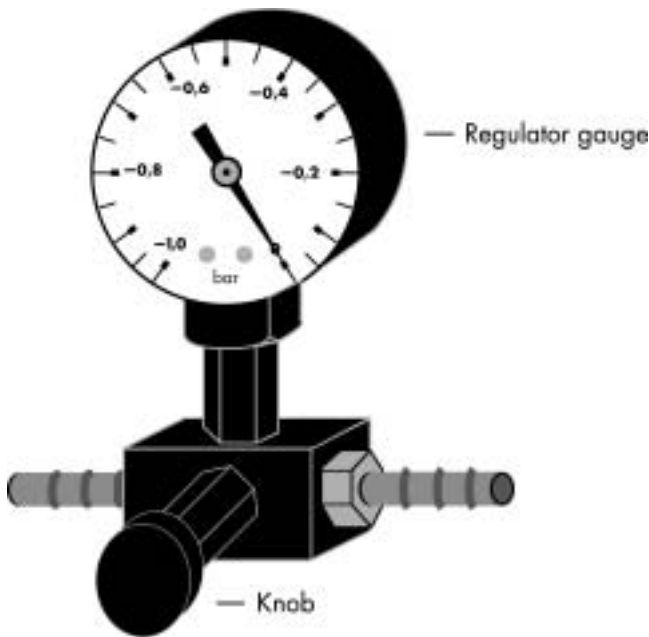

Figure 1. Schematic diagram of the Vacuum Regulator.
- The vacuum pressure is the pressure differential between the inside of the vacuum manifold and the atmosphere (standard atmospheric pressure 1013 millibar or 760 mm Hg) and can be measured using the QIAvac Connecting System or a vacuum regulator (see Figure 1). The vacuum protocol requires a vacuum pump capable of producing a vacuum of –800 to –900 mbar (e.g., QIAGEN, Vacuum Pump). Higher vacuum pressures must be avoided. Use of vacuum pressures lower than recommended may reduce DNA yield and purity and increase the frequency of clogged membranes.
Switch off the vacuum between steps to ensure that a consistent, even vacuum is applied during processing. For faster vacuum release, a vacuum regulator should be used (see Figure 1).